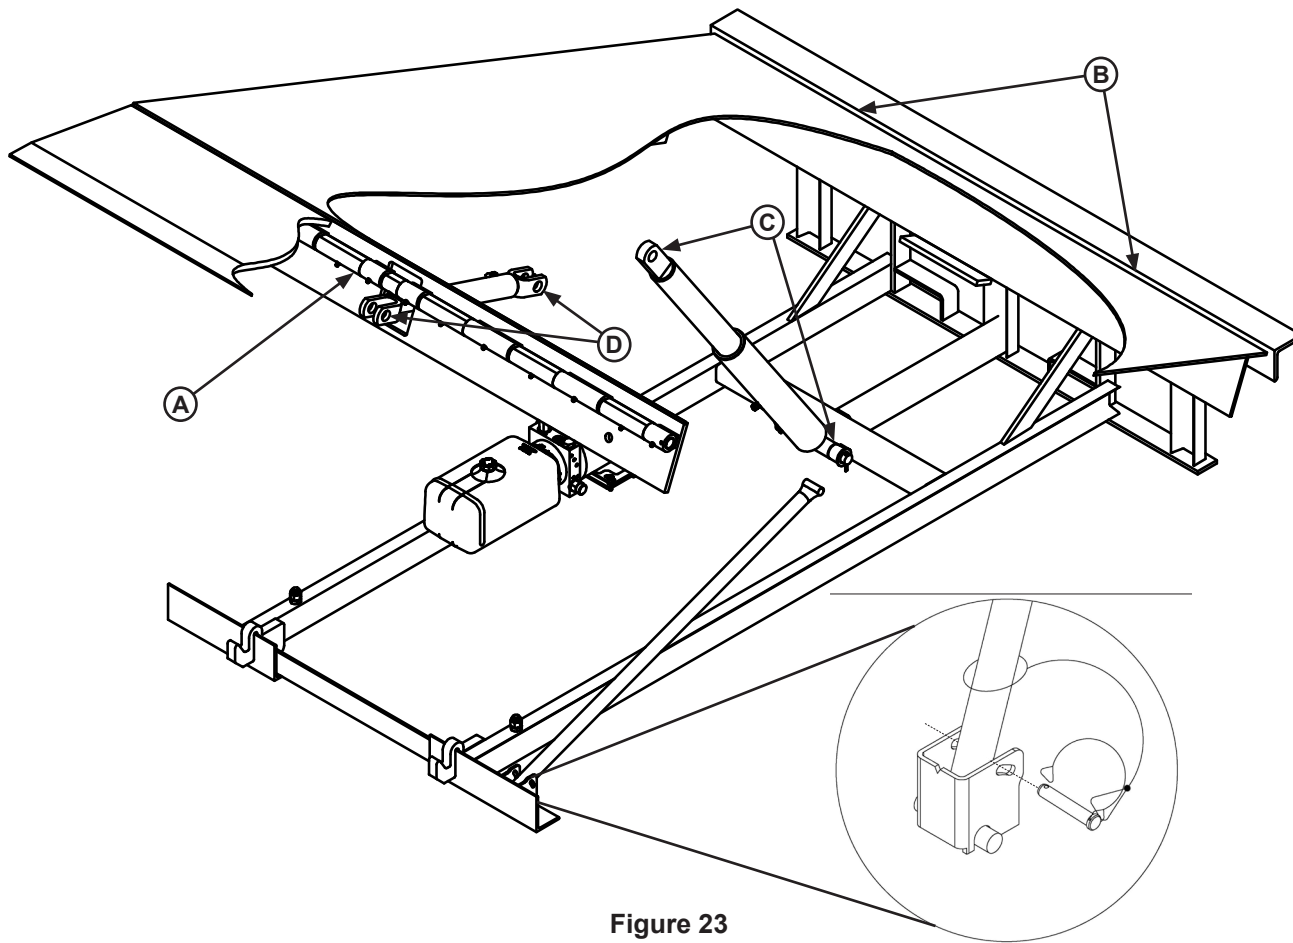

Figure 23
- Lubricate the following areas with light weight machine oil (see Figure 23):
- (A) — Lip hinge area unless equipped with grease fittings (apply oil to the top of the entire length of lip hinge when platform is at the full below-dock position and lip is folded)
- (B) — Platform rear hinge area (apply oil to top of all platform hinges when platform is at the full below-dock position)
- (C) — Platform cylinder pins
- (D) — Lip cylinder pins